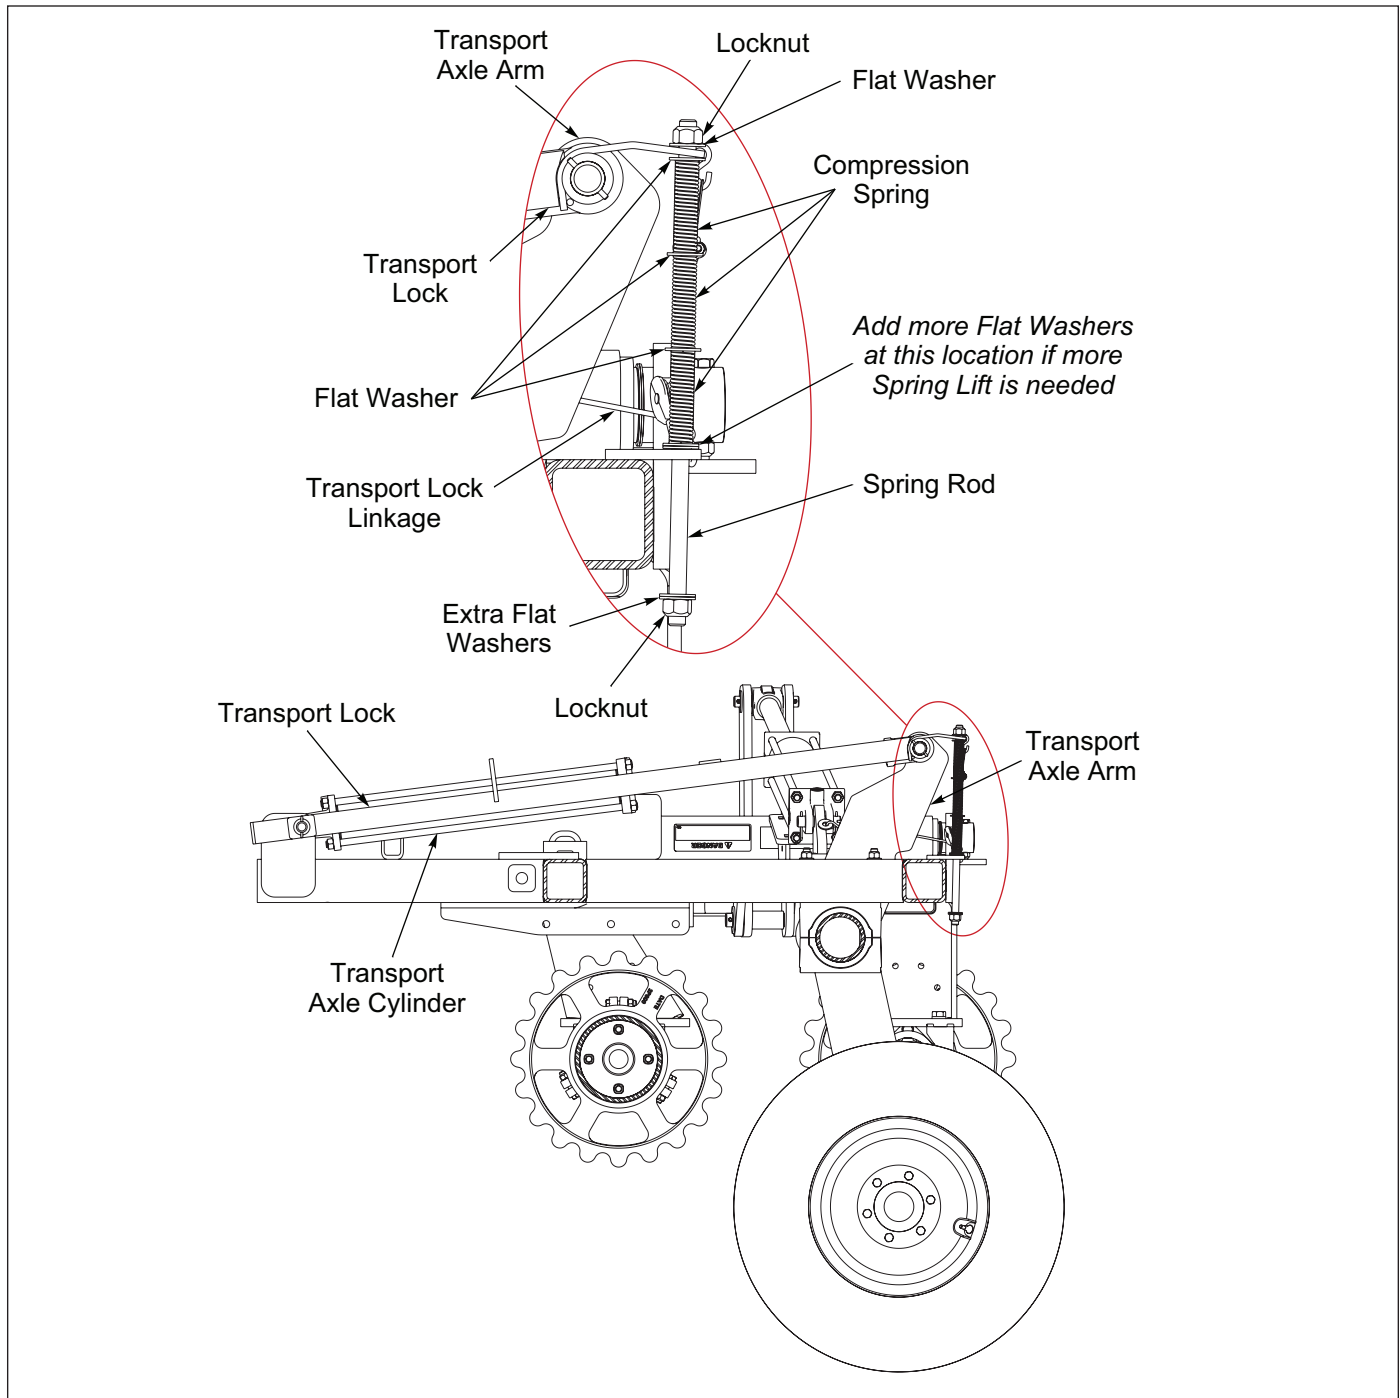

Figure 3-6: Transport Lock - Locked Position
4. Fully extend the Hydraulic Lift Cylinders, and retract the Wing Fold Cylinders. Transport Lock will engage when Lift Cylinder is extended. **See Figure 3-6.**
2. When the Pulverizer is raised and folded the Transport Lock will automatically engage the lift system/cable spring link system, locking the Transport Lock in place. **See Figure 3-6.**